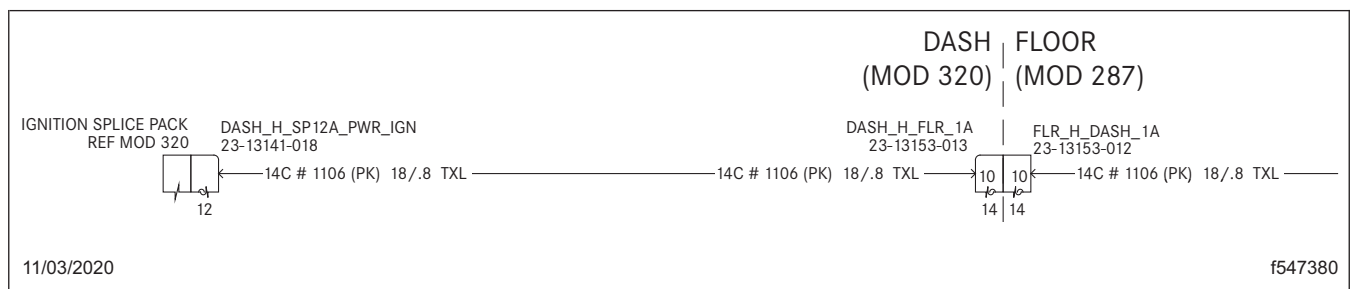

Fig. 3, SP12A Circuit 14C to 14 Pin Connector
- Note that circuit 14C originates from the main dash harness A06-71941-001 SP12A and routes to the 14 pin connector DASH_H_FLR_1A. See Fig. 3 from schematic G66-07101-001.